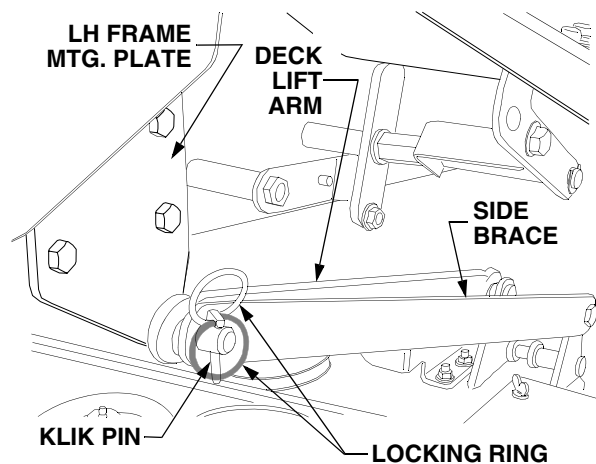

Figure 60
- On each side of the tractor, flip the klik pin locking ring upward and remove the klik pin from the frame mounting plate pin. Slide the side brace and deck lift arms from each frame mounting pin. Reinstall the klik pins to avoid losing. Refer to Figure 60.
- Slide the deck lift arms and side braces onto the pins of the LH and RH frame mounting plates. Insert a klik pin through the hole of each frame mounting plate pin. Flip the locking rings downward and over the ends of the mounting plate pins to lock the klik pins in place. Refer to Figure 60.